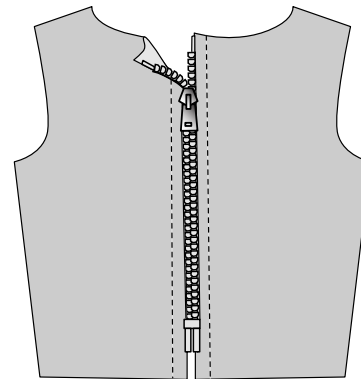

Figure 26
4. Press facing/seam allowance to back of opening. Topstitch $\frac{1}{4}$ inch away from fold along each side of zipper. (Figure 26)